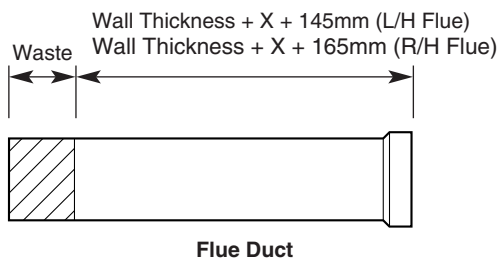

Fig. 40
4. Take the **Flue Duct** and measure the dimension below from the flared end. Cut the waste off the plain end (Fig. 40).